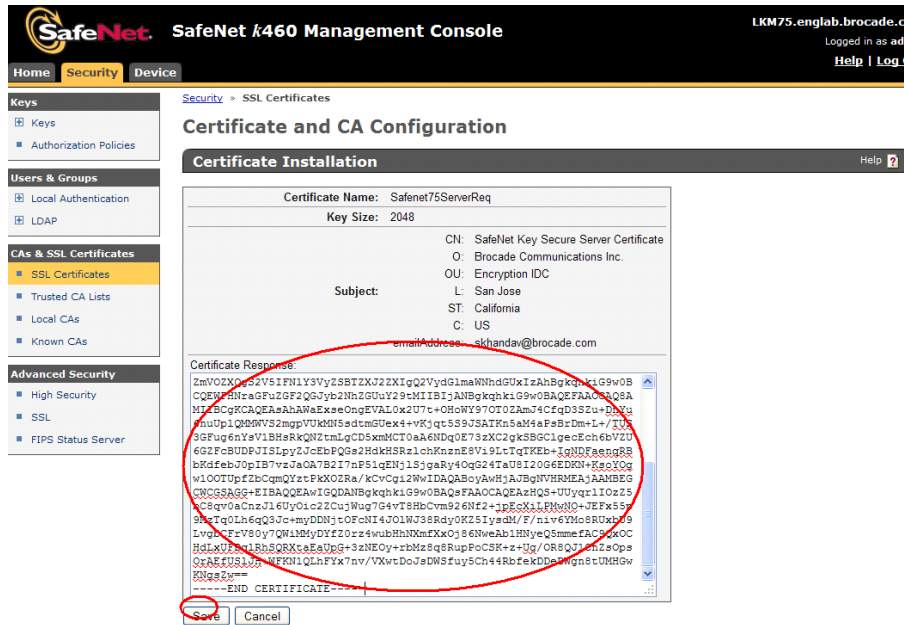

FIGURE 225 KeySecure Certificate and CA Configuration page - Certificate Installation
13. Paste the server certificate request contents in the **Certificate Installation** text box, then click **Save**. (Refer to Figure 225.)